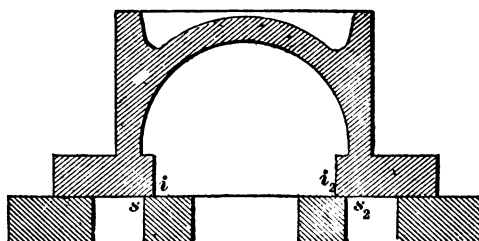

Fig. 25.
*Inside Lap.*—The amount that the inside edges  $i$  and  $i_2$  of the valve, Fig. 25, overlap the inside edges  $s$  and  $s_2$  of the steam ports, when the valve stands midway of its travel, is called inside lap; thus, the distance from  $s$  to  $i$ , or from  $s_2$  to  $i_2$ , represents the inside lap. Its purpose is to delay the release of steam.